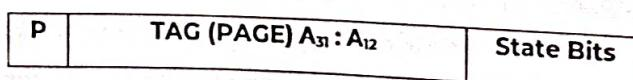

Figure 6.4: Data Cache Directory Entry Structure.
14. Figure 6.4 shows the Data Cache Directory Entry Structure.